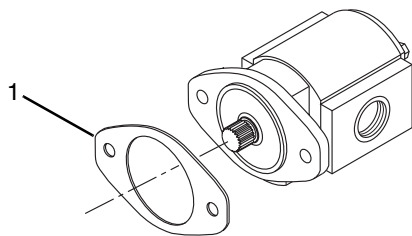

Figure 5-20 Implement Pump Removal
11. Remove the gasket (Fig. 5-20, 1) from the implement pump and discard.